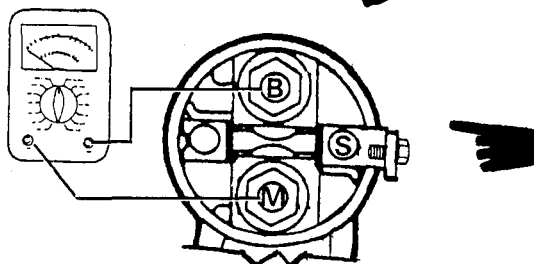

Figure 5-10. Testing Solenoid Switch
(6) Testing Brush Springs. Style II Starter. Firmly hold brush holder and push the brush against the brush spring until completely inside of its guide. If little or no resistance (tension) is present, spring should be replaced. Badly worn or pitted brush surface may indicate weak spring.
(7) Testing Solenoid Switch. Style I Starter. (see figure 5-10).
(a) Check to be sure plunger moves freely in coil. Measure pull-in coil current using a ammeter. See Test A, figure 5-10, current should not exceed 16 amps.
(b) Measure the hold-in current using Test B, figure 5-10. Current should not exceed 6 amps.
(c) Check total hold and pull current draw using Test C, figure 5-10. Total current should not exceed 25 amps. Replace defective solenoid switch.
(8) Testing Solenoid Switch. Style II Starter. (see figure 5-10).